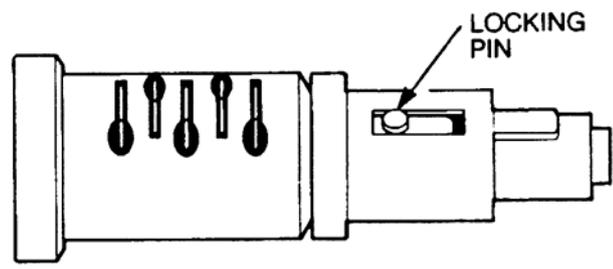

Figure 21 Lock Barrel Insert Removal
- kk. Press the locking pin on the barrel (refer Figure 21).
Ensure that the locking pin is correctly positioned (refer Figure 21).